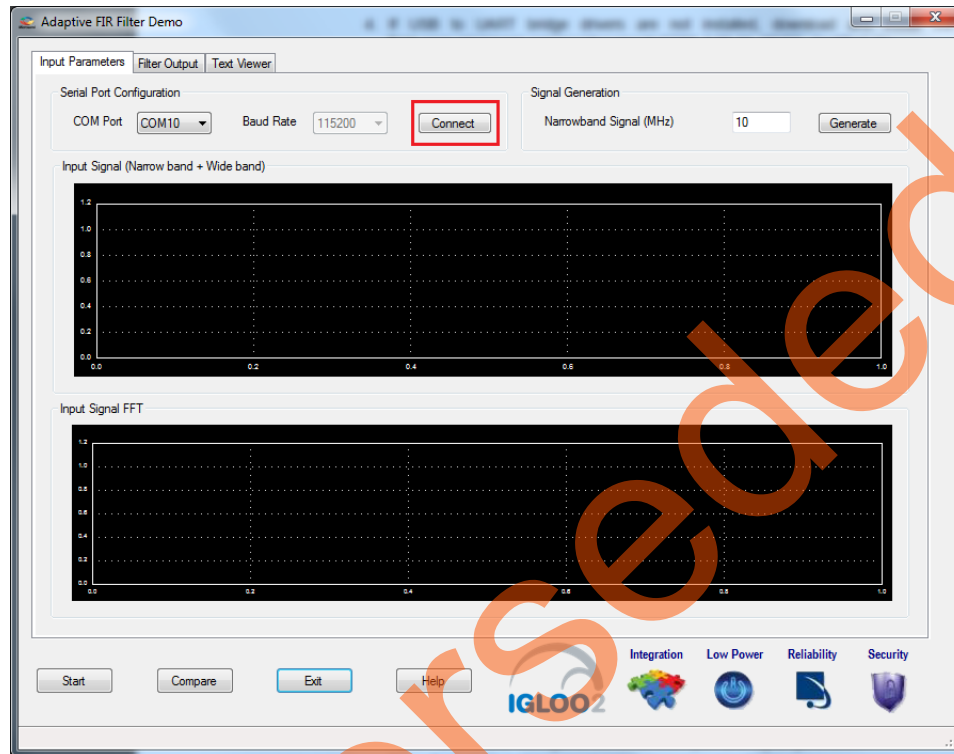

Figure 13 • Serial Port Configuration
1. Launch the adaptive FIR filter demo GUI, install and invoke the executable file provided with the design files. (\\IGLOO2_Adaptive_FIR_Filter_DF\\GUI\\IGL2_Adaptive_FIR_Filter.exe). The Adaptive FIR Filter Demo window is displayed, refer to Figure 13.
2. **Serial Port Configuration:** The COM port number is automatically detected and baud rate is fixed at 115200. Press **Connect**. Refer to Figure 13.